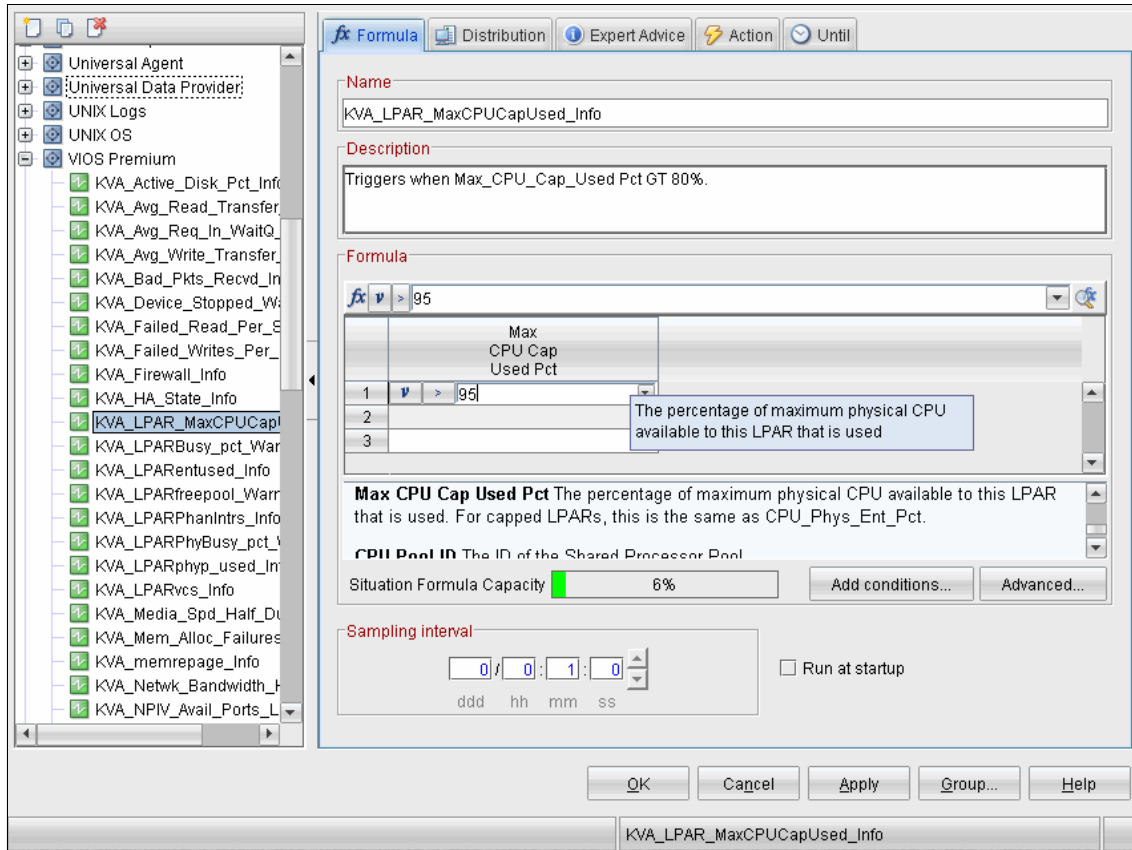

Figure 18-17 Changing the trigger threshold for a situation
- You can then change the threshold at which a situation becomes true by using the Formula tab as shown in Figure 18-17. You can use the Distribution tab to assign the situation to specific managed systems. The Expert Advice and Action tabs can be used to describe, or automatically perform, tasks that will resolve the situation.